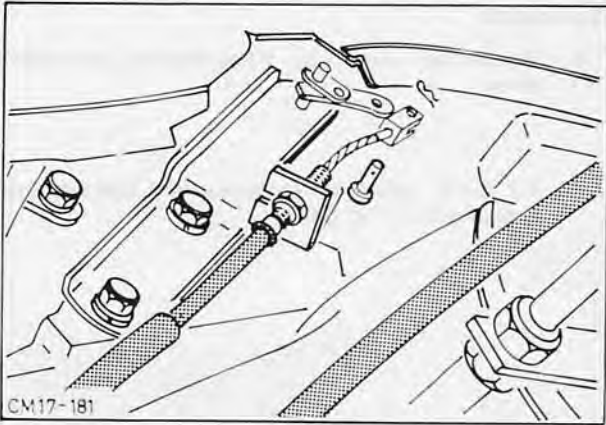

Fig. 58. Disconnect downshift cable from carburettor linkage connecting lever
2. Disconnect cable top end from carburettor linkage connecting lever (split pin), Fig. 58.